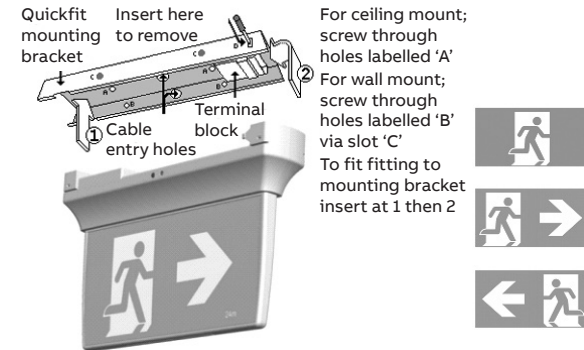

Figure 2: Quickfit insertion diagram and internal view
1. Take the mounting bracket and whilst holding it into place against the ceiling or wall, use a pencil to mark the position of the screw holes (at A or B in figure 2) and cable entry position through the bracket onto the ceiling or wall as appropriate. Make sure to allow at least 50mm of free space to the right hand side of the final location of the fitting to allow for the sliding function of attaching the fitting to the mounting bracket. If need be, turn the bracket around and swap the diffuser with the back plate to permit room for inserting and removing the fitting from the mounting bracket. Orient the bracket in such a way as to make the LED and push button readily visible and accessible when the fitting is installed.
4. Attach the fitting to the mounting bracket by aligning the top left hand end of the fitting (the end without the protruding electrical connecting metal lugs) with the large cut-away slot towards the left hand end of the bracket. Slip the left hand end of the fitting up into the slot in the left hand end of the bracket (step 1) in figure 2) and hold the fitting horizontal to and parallel with the bracket. It should be approximately 50mm to the right of its final destination. Simply slide the fitting (step 2) in figure 2) 50mm to the left along and into the bracket to engage the connections and the locking tab. Once in place, the fitting cannot be removed from the bracket without the use of a tool (a small screwdriver) to push in the locking tab at 'D' in figure 2. Ensure the correct pictograph inserts have been attached to the diffuser assembly.
1. Gently insert a small screwdriver into the slot (at 'D' in figure 2) on the front of the bracket towards the right hand end of the fitting, to ease the locking tab into the fitting and away from the bracket.